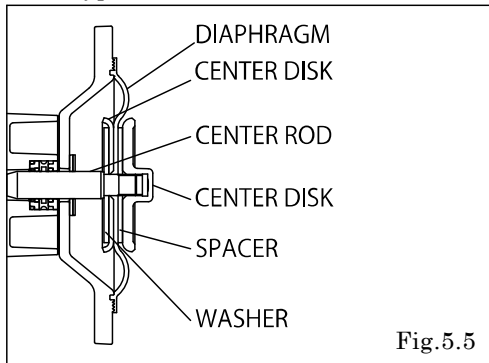

Fig.5.5
- For the model with NBR diaphragm, put the spacer into outside of the diaphragms. (cf. Fig.5.5).
- Pull out the diaphragm to one side and assemble the out chamber with Fig. 5.5、 5.6、 5.7 condition. Bolts should not be fully tightened at this point.
- Pull out the diaphragms to the other side and assemble the out chamber with Fig. 5.5、 5.6、 5.7 condition. Bolts should not be fully tightened at this point.